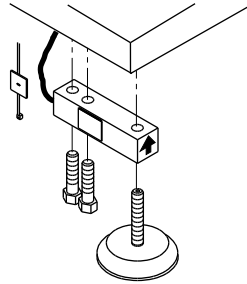
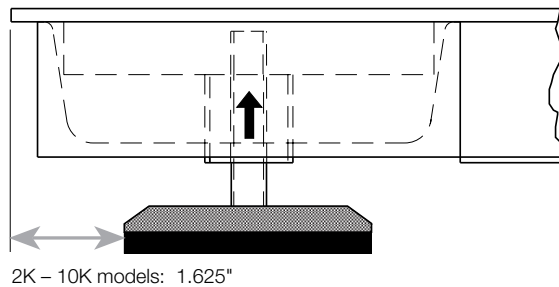

Figure 4-1. Load Cell Assembly
Figure 4-2. Foot Pad - Side View
5. Loosely install the hex head cap screws provided, as shown in Figure 4-1. If the base is used with a pit frame or access ramp, position the load cell to maintain the dimension shown in Figure 4-2.